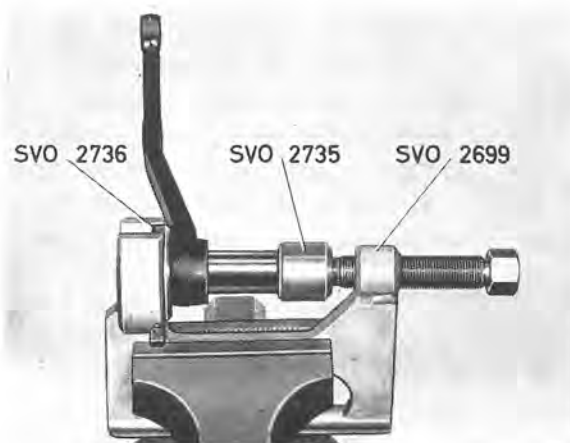

Fig. 6-50. Installing rubber bush, relay arm
5. Turn the relay arm and press in the new bush with tools 2699+2736 and drift 2735 (see Fig. 6-50).
6. Place the relay arm in position, fit the washer (7) and the nut. Tighten the nut to a torque of 70—85 Nm (50—60 lbft).